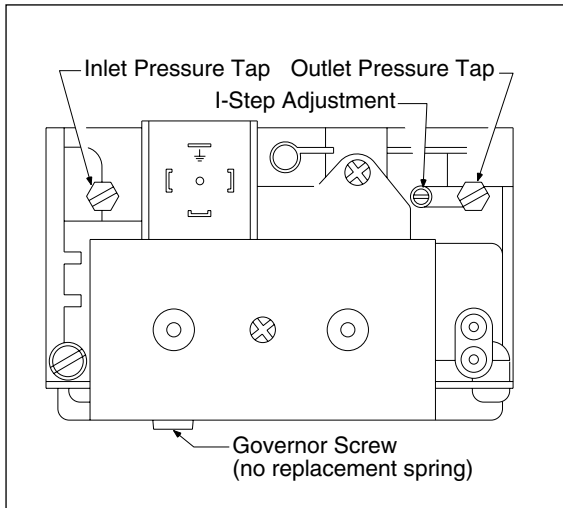

Figure 22 SIT Valve Detail
- 10.4.1 To adjust, gradually turn screw marked "1 Step" until ignition is prompt and silent. Clockwise rotation: start flow decreases. (see Figure 22). The step-open flow rate should allow 2.5 mbar (1.0 in wg) gas pressure to the jet. After proper adjustment of the step-open flow rate, the valve will fully open within a few seconds and the governor pressure may then be set.